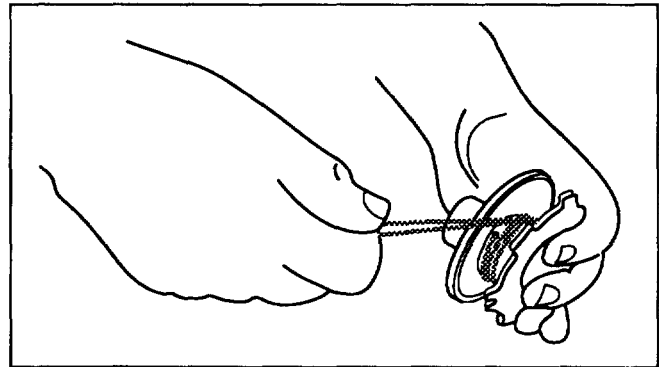
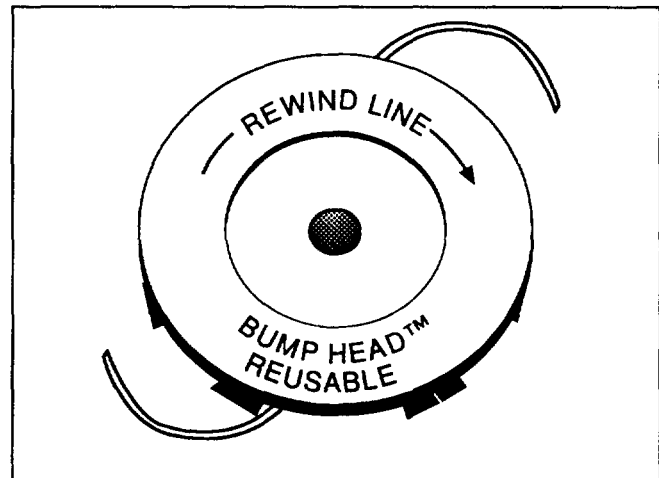

Fig. 16
Fig. 17
2. Wind the two lines, in even and tight parallel layers (Fig. 16). Wind the line clockwise as indicated by the arrow on the inner reel (Fig. 17). Be sure not to overlap (cross) the lines because the Bump Head line feed will not operate correctly.